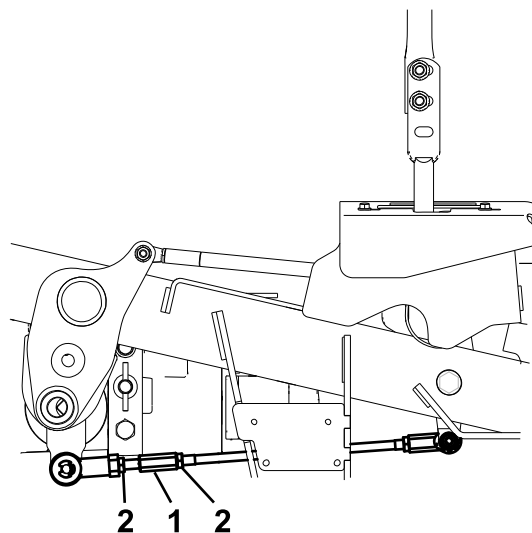

Figure 67
9. Adjust the pump control rod lengths by rotating the double nuts on the rod in the appropriate direction until the wheels slightly creep in reverse (Figure 67).